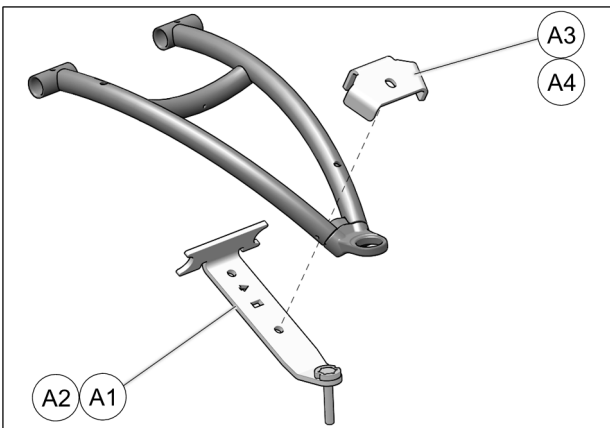

Fig. 18
- Position bottom part of anchor bracket (A1-A2) under lower suspension arm. Position top part (A3-A4) over suspension arm and insert tenon in mortise cut in bottom part. See Fig. 18